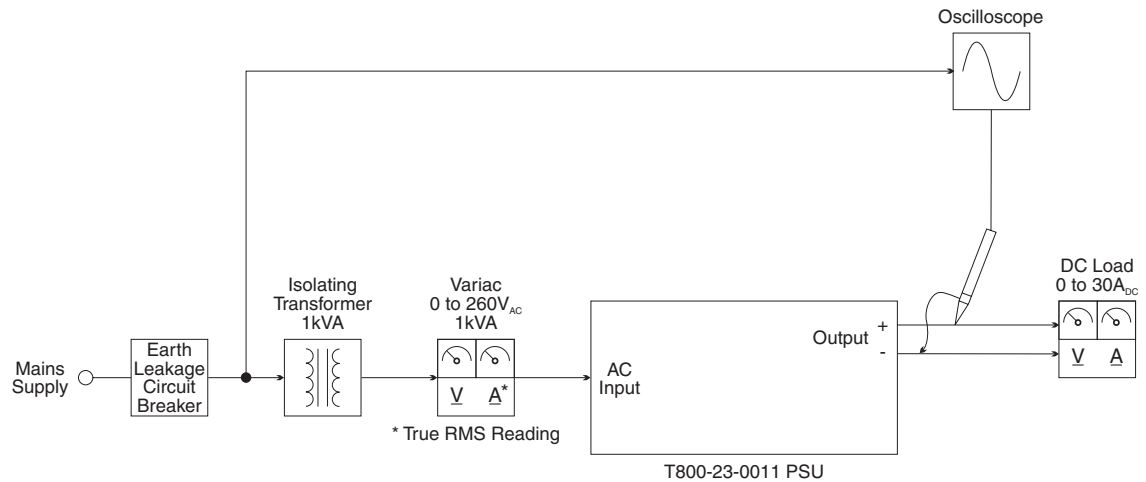

Figure 4.1 Test equipment setup
The following test procedures will confirm that the T800-23-0011 has been set up and adjusted correctly and is fully operational. Refer to Figure 4.1 for test equipment details.
- Ensure that the main supply to the T800-23-0011 is switched off. Set up the test equipment as shown in Figure 4.1.
- Ensure that the main supply to the T800-23-0011 is switched off. Set up the test equipment as shown in Figure 4.1. Connect the T800-23-0011 to the mains supply and switch it on.